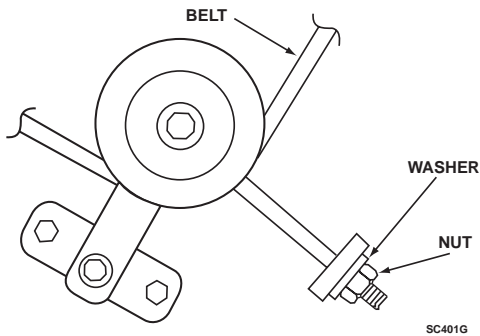
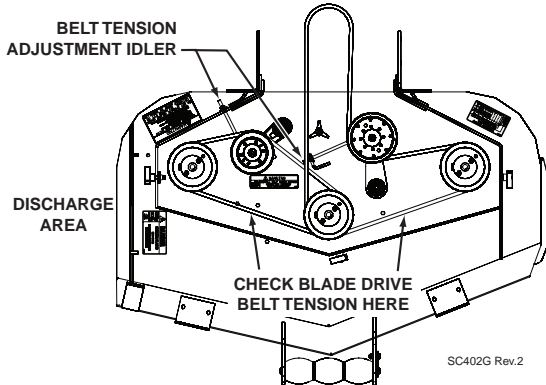

Figure 6-5. Cutter Deck Belt Adjustment R.H.
Figure 6-6. Cutter Deck Belt
- Adjust the RH blade drive belt using a belt tension gauge. Adjust the belt so that the belt moves 1/2" with 10 pounds of pressure. Adjust the tension by tightening or loosening the J-bolt. See Figure 6-5 and Figure 6-6.